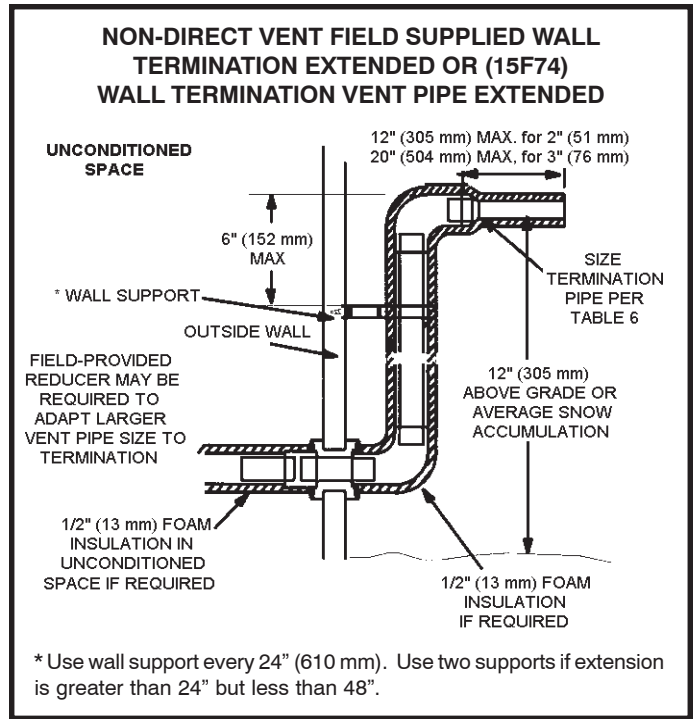

Figure 39
- If exhaust piping must be run up a sidewall to position above snow accumulation or other obstructions, piping must be supported every 24" (610 mm) as shown in Figure 39. When exhaust piping must be run up an outside wall, any reduction in exhaust pipe size must be done after the final elbow.